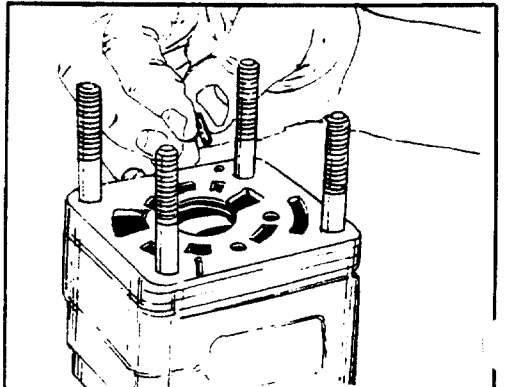

FIGURE 78.
30. Install two alignment pins (11) into the isolation manifold (15). See figure 78.